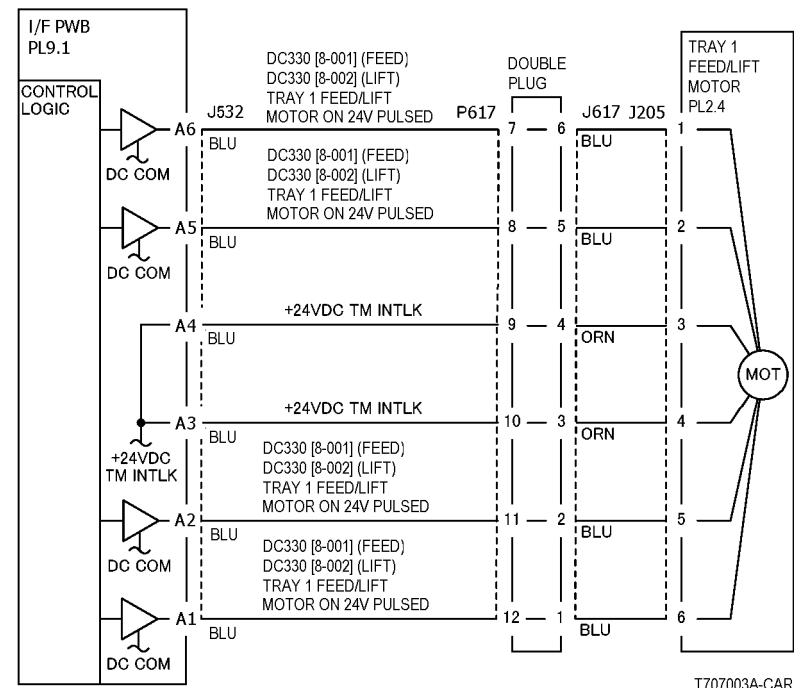
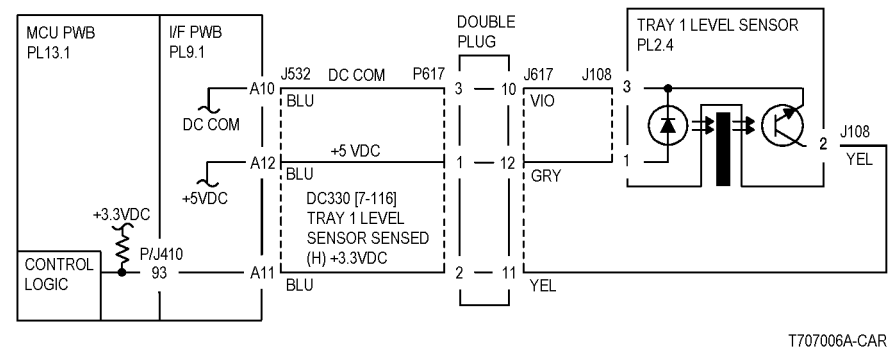

Figure 1 7-281 RAP Circuit Diagram - Tray 1 Lift/Feed Motor
Figure 2 7-281 RAP Circuit Diagram - Tray 1 Level Sensor
Press **Stop**. Check the circuit of the Tray 1 Level Sensor (Figure 2). Refer to the OF 99-2 RAP for troubleshooting procedure.
- Ensure that the connectors shown in the circuit diagrams (Figure 1, Figure 2) are securely connected and that the wires are not damaged.